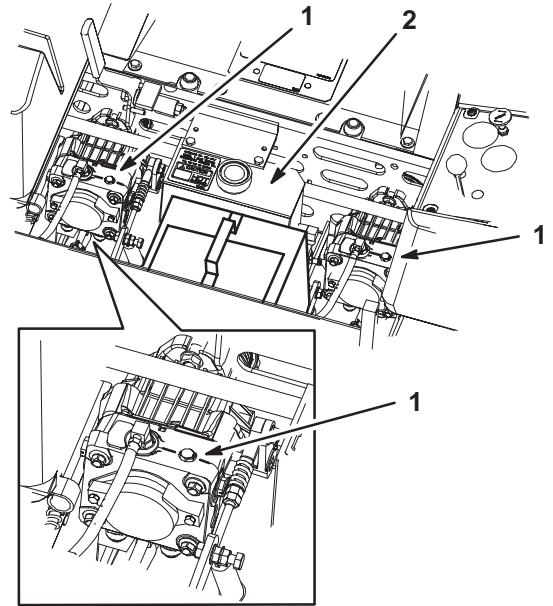

Figure 28
2. Rotate the by-pass valves counterclockwise 1 turn to push. This allows the hydraulic fluid to by-pass the pump enabling the wheels to turn (Fig. 28).
1. Rotate the by-pass valves clockwise 1 turn to operate machine (Fig. 28).